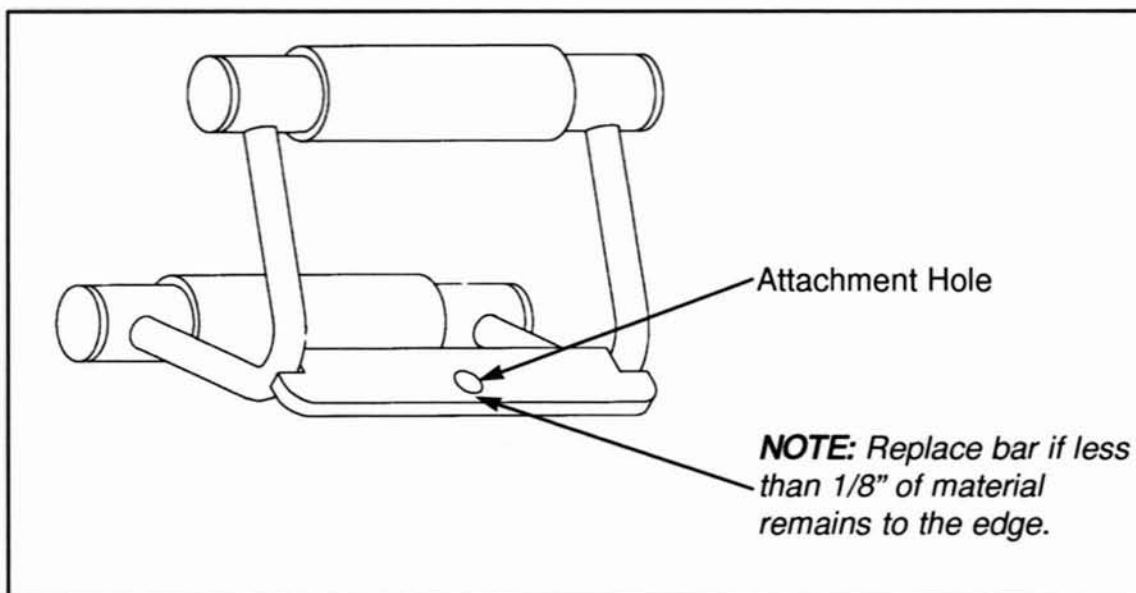

Figure 5
3. Check narrow grip handle attachment hole for wear. Replace if significant wear is visible. Do not use if less than 1/8" of material remains to the edge. See Figure 5.